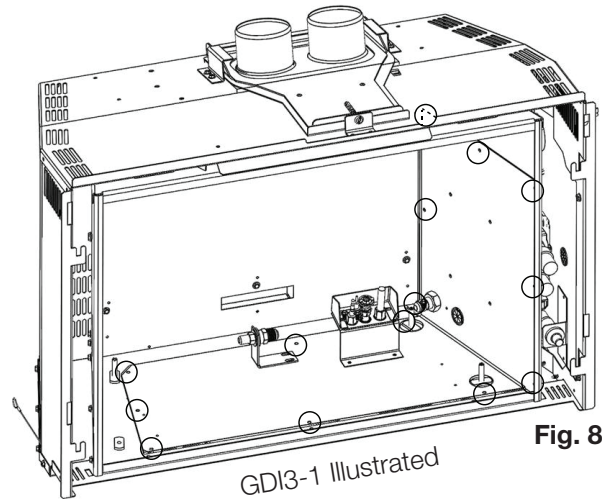

Fig. 8-3
- D. Remove the 14 screws holding the valve train in place (**Fig. 8-3**).